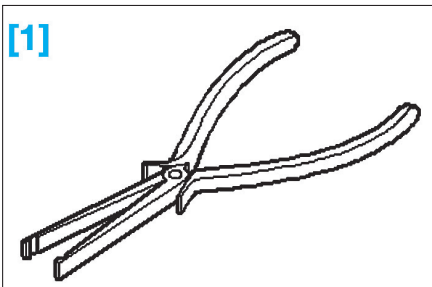

FIG. 70
- [1]. Pince ref. 3314 (Fig.70)